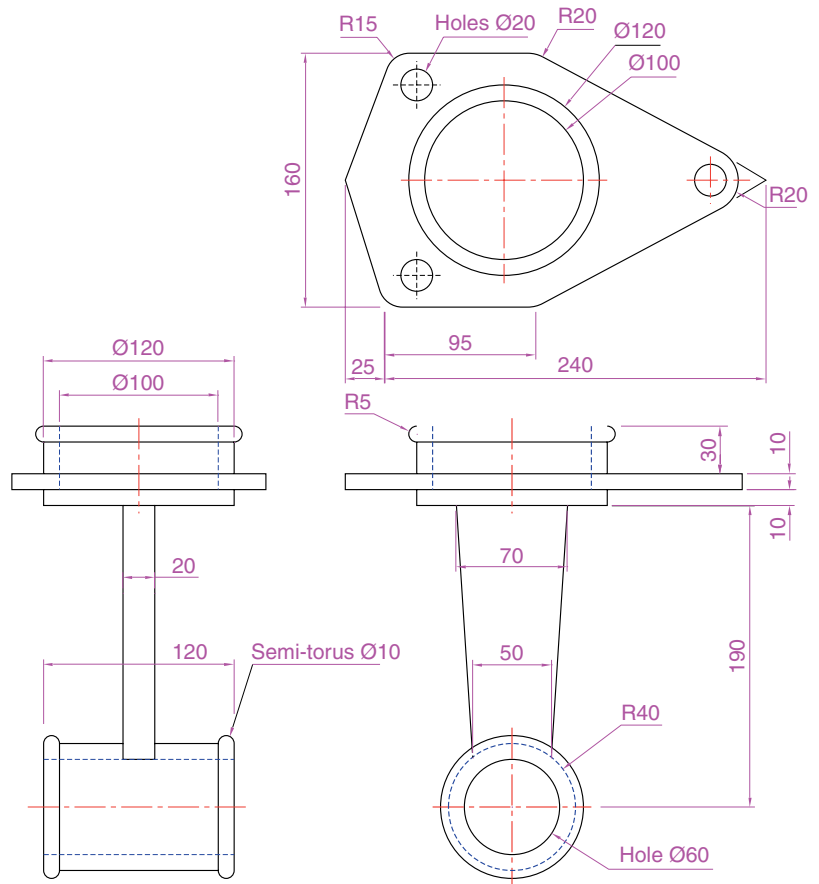

Fig. 16.35 Exercise 3
3. A three-view drawing of a hanging spindle bearing in third angle orthographic projection is shown in Fig. 16.35. Working to the dimensions in the drawing, construct a 3D model drawing of the bearing.